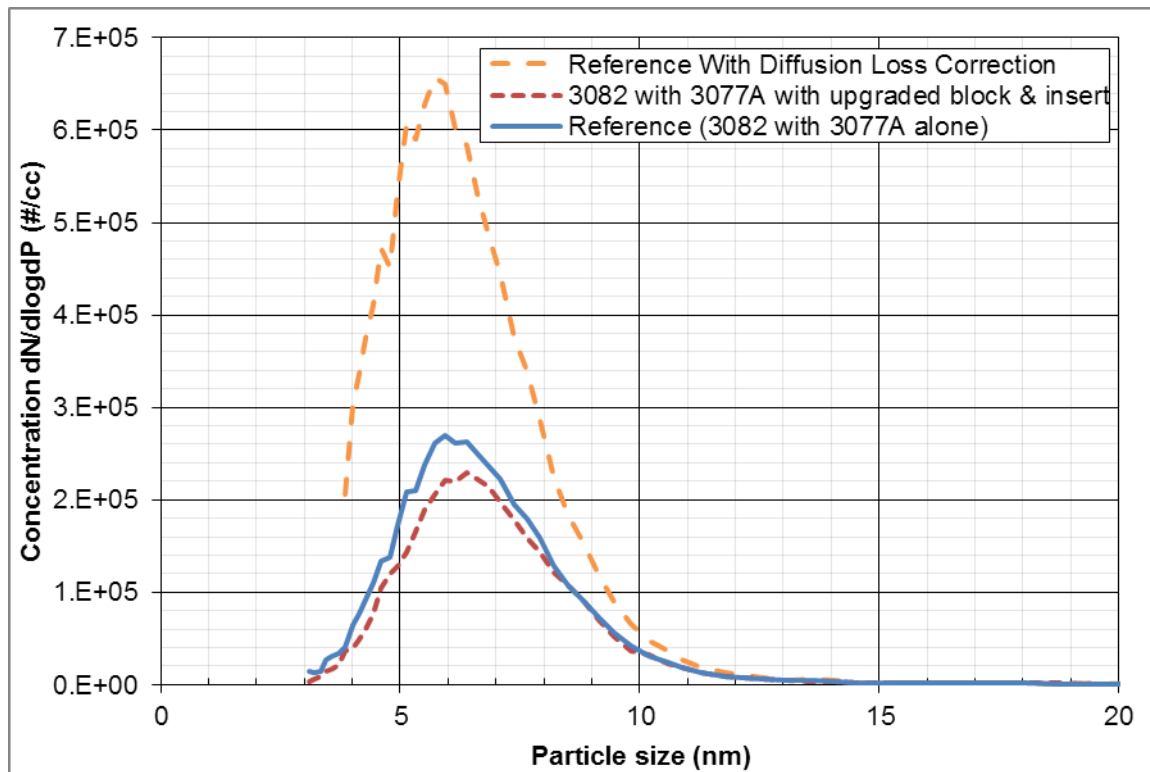

Figure 5: Flow mixing insert diffusion loss contribution at 1.5 L/min aerosol flow with pre-neutralized aerosol
See Figure 5. The total aerosol concentration for the 3077(A) neutralizer with neutralizer insert was measured to be within $\pm 10\%$ of the reference total concentration down to 8 nm. At the smallest sizes (< 8 nm), where diffusion losses are highest, diffusion losses due to the neutralizer insert are measurable but are an order of magnitude less than the overall diffusion losses of the SMPS system flow path. Losses due to the new inlet block (not shown) were also measured between 2 and 200 nm and are negligible ($< 2\%$).